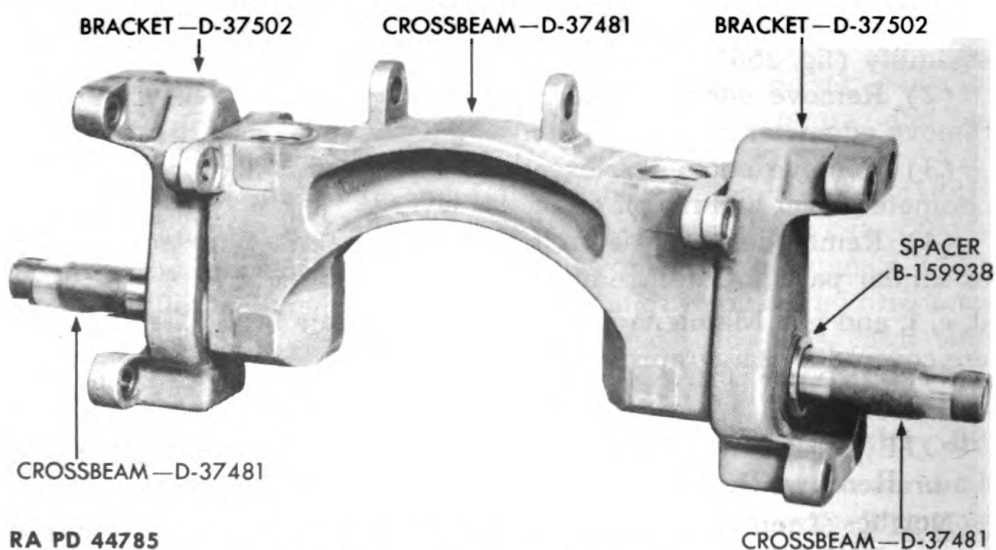

Figure 275—Bogie Crossbeam Assembly
e. Remove Crossbeam Torque Bracket. Use an arbor press to press crossbeam torque bracket D37502 from bogie crossbeam D37481. Remove roller bearing spacer from bracket (fig. 275).
(1) Coat outside surface of roller bearing spacer with **TALLOW**, mutton, refined, or **LEAD**, white, and press it into place in crossbeam torque bracket (fig. 275).